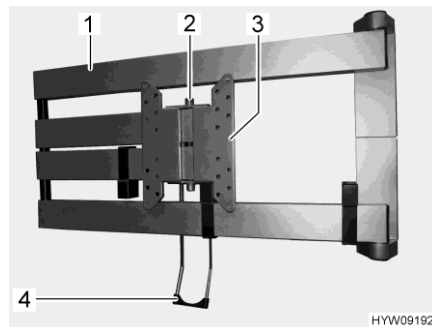

Fig. 46 Jointed arm
- Pull the release lever (Fig. 46,4). The jointed arm (Fig. 46,1) is unlocked.